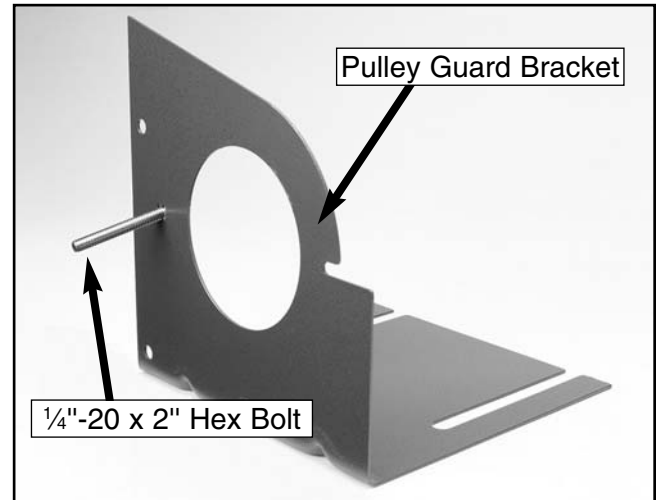

Figure 16. Pulley guard bracket.
2. Insert the 1/4"-20 x 2" hex bolt through the hole in the pulley guard bracket as shown in **Figure 16**.